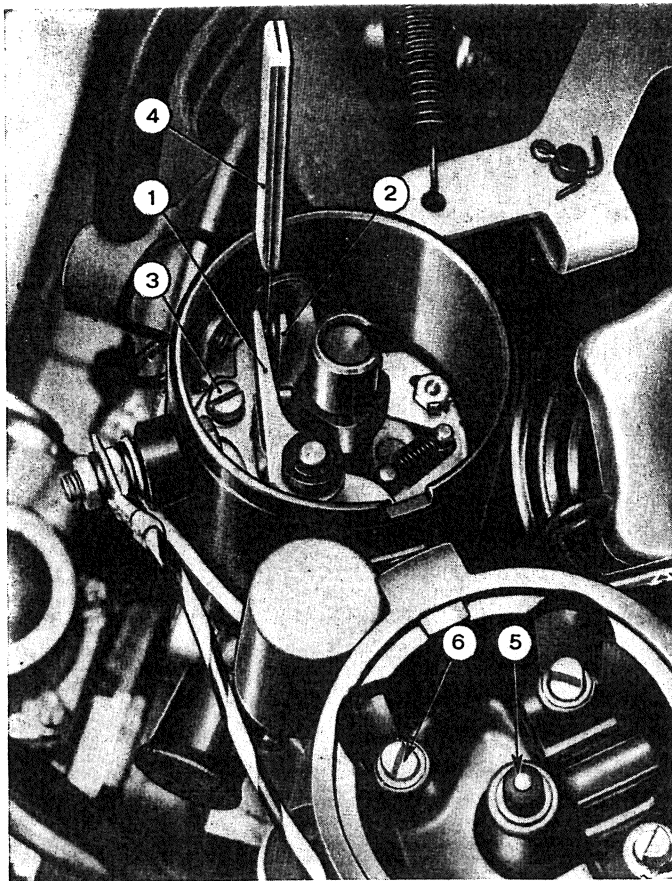

Fig. 439 - Checking distributor breaker point opening.
Check also that contact gap is .0185" to .0209" (0,47 to 0,53 mm) (fig. 439) and contact points pressure 16.8 ± 1.8 oz (475 ± 50 gr.).
Also, replace the breaker arm if the rubbing block turns out to be excessively worn. Breaker arm should be replaced, too, when points are worn to such an extent as the gap exceeds the last setting limit of .0209" (0,53 mm), so that adjustment through stationary contact carrier screw (3, fig. 439) is no longer possible.
To adjust point opening, loosen screw (3, fig. 439) and move the stationary contact carrier (2) as required. After the adjustment has been made, use a feeler gauge and check it against the gap specification (.0185" to .0209" - 0,47 to 0,53 mm). Again tighten the contact carrier screw (3).